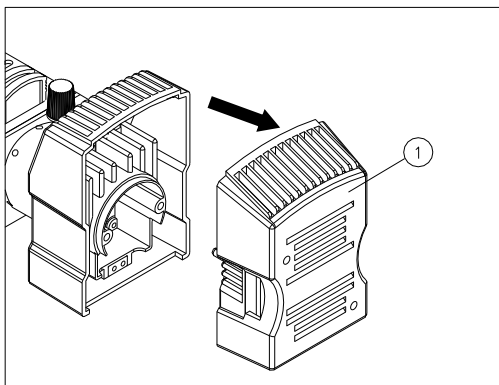

Fig.15
1. Pull out the lamp-house ① as the picture show (Fig.15).